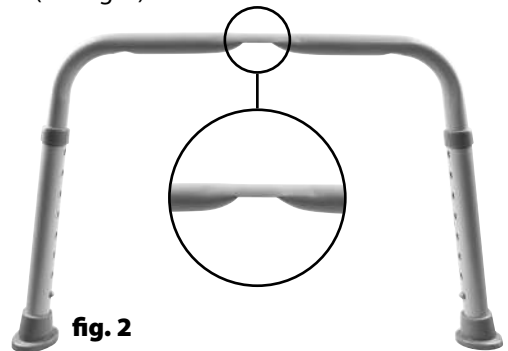

fig. 2
2. Identify leg assembly A. (When stood up Leg Assembly A has a flat top and a cut-out on the underside of the tube) (see fig. 2)